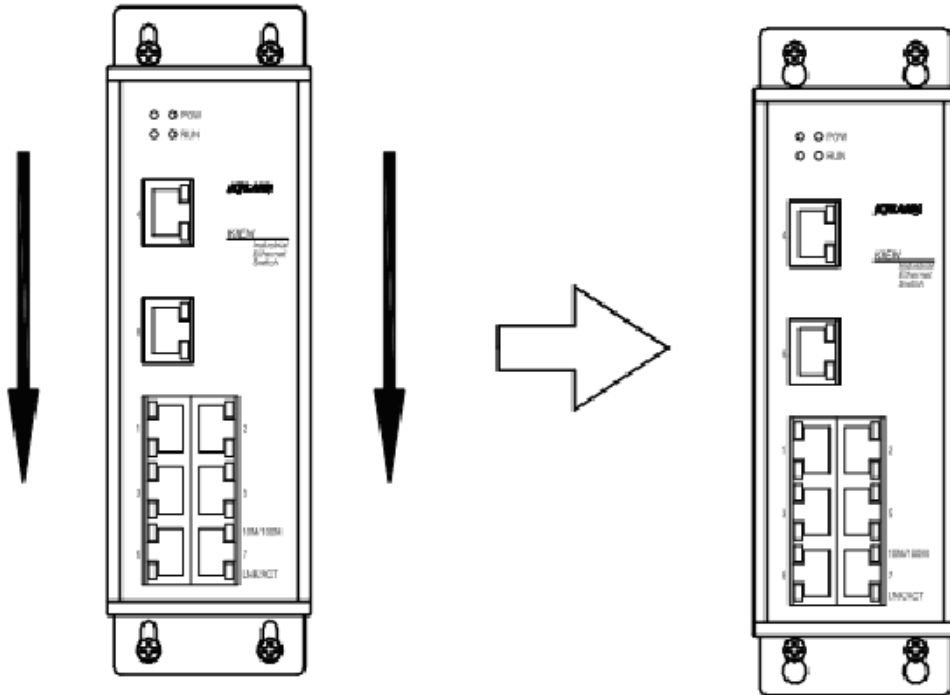

Figure 2-5 Wall Mount
4. After screws are fixed on the wall, mount the switch on the selected position and make 4 screws pass through 4 $\Phi 6.5$ holes on the wall hanging plate. Slide down the switch, as showed in the Figure 2-5. Screw down 4 screws to fasten the switch on the wall or the internal wall of the switch cabinet.